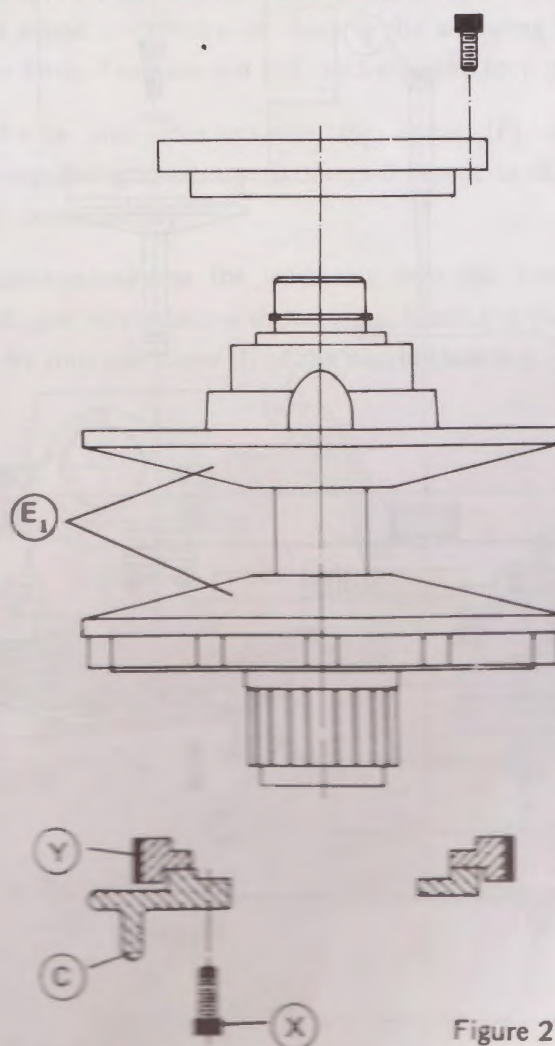

Figure 27
(3) Replacement of Brake Block (Figure 27):